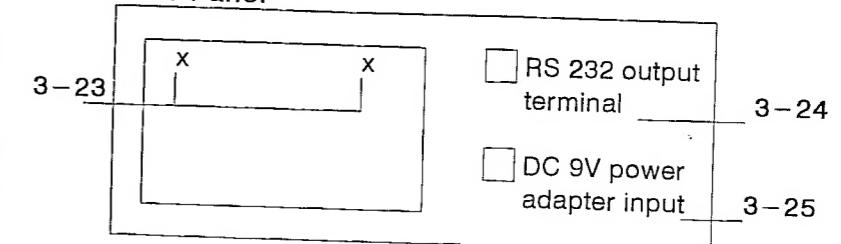

Fig. 1
- 1) Push the " Power Switch " (3-13, Fig. 1), all the display segments will bright then show 0 or some random values. Now the instrument is ready for measurement.
- 2) Push the " Range Switch " (3-15, 3-16, 3-17, Fig. 1) to the " 10 MHz ", " 500 MHz " or " 2.7 GHz " position according to the measurement required.
- 3) a. Input the measured signal to Channel A/BNC socket (3-2, Fig. 1) via. BNC cable (optional, PB-21 or BB-22) if the measured frequency is within 10 MHz.
b. Input the measured signal to Channel B/N type socket (3-3, Fig. 1) via N type cable (optional, NN-23) if the measured frequency is within 10 MHz to 500 MHz.
c. Input the measured signal to Channel C/N type socket (3-4, Fig. 1) via N type cable (optional, NN-23) if the measured frequency is within 100 MHz to 2700 MHz.
- 4) According the different input range, select the Sensitivity Switch (3-19, 3-20, 3-21, Fig. 1) to the " HIGH " (high sensitivity) or " NORMAL " (normal sensitivity) position.
- 5) Slide the Gate Time Switch (3-18, Fig. 1) to the " FAST " or " SLOW " position to determine the convenient sampling time & display resolution.
- 6) The display unit is Hz for 10 MHz range. The display unit is MHz for 500 & 2.7 GHz range. The Gate Indicator (3-22, Fig. 1) will be flashed one for each sampling time passed.
- * If select to " SLOW " position, then push The RESO. button (3-10, Fig. 1) at once 3 times will result 3 kinds Sampling Time & Resolution combination. For more details please see the following table :
During the measurement, it will hold the display values, if push the "HOLD Button" (3-8, Fig. 1) at once.
- 1) During the measurement, the circuit will memorize the last measured values if push the "REL. Button" (3-9, Fig. 1) at once, then LCD will show "0" & a "REL" marker appear on the right down corner.
- 1) Input the measured signal to Channel A/BNC socket (3-2, Fig. 1) via. BNC cable (optional, PB-21 or BB-22)
- 2) Select the "Period Switch" (3-14, Fig. 1) Select the "10 MHz range Sensitivity Switch" Switch (3-19, Fig. 1) to the "HIGH" (high sensitivity) or "NORMAL" (normal sensitivity) position.
3) Slide the Gate Time Switch (3-18, Fig. 1) to the " FAST " or " SLOW " position to determine the convenient sampling time & display resolution.
2) Loose the Battery Cover Screws (3-23, Fig. 1), take the battery cover away from the instrument and remove the batteries.